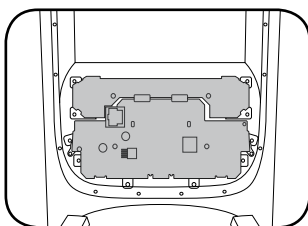

Fig. 1.5
- Unclip the factory climate circuit board and set aside. (Fig. 1.5)